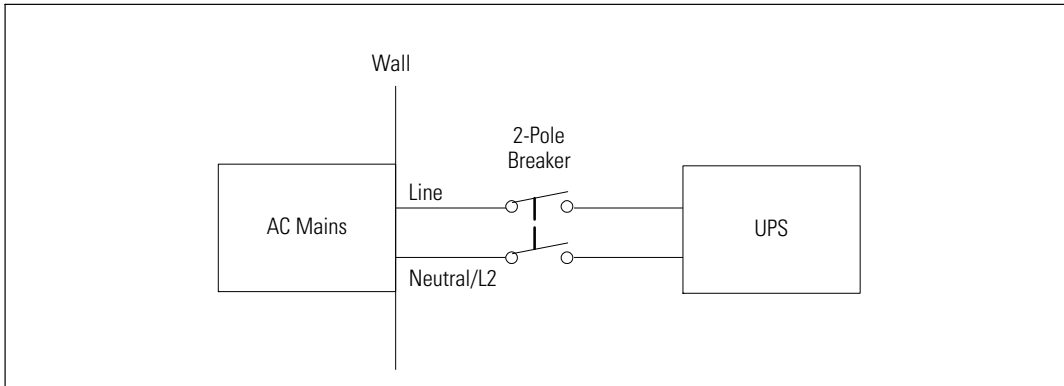

Figure 17. Circuit Breaker Diagram
- The protection device requires a two-pole disconnection device between the UPS input and the mains (see Figure 17)